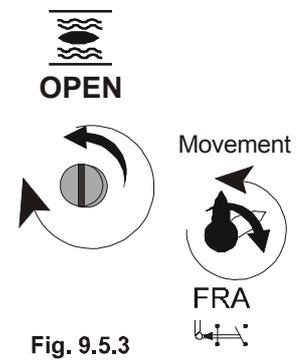

Fig. 9.5.3
- If, by accident, it has been carried on turning past the tripping of the FRA microswitch, turn spindle A in the opposite direction (clockwise) until the B spindle returns to vertical. Figure 9.5.3)